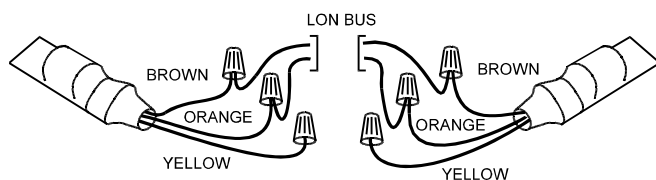
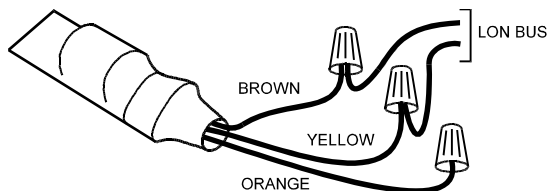

Fig. 70. Termination Module 209541B connections for doubly-terminated FTT network
Fig. 71. Termination Module 209541B connections for a singly-terminated FTT network
- 209541B LONWORKS Bus Termination Module (see Fig. 70 and Fig. 71) and